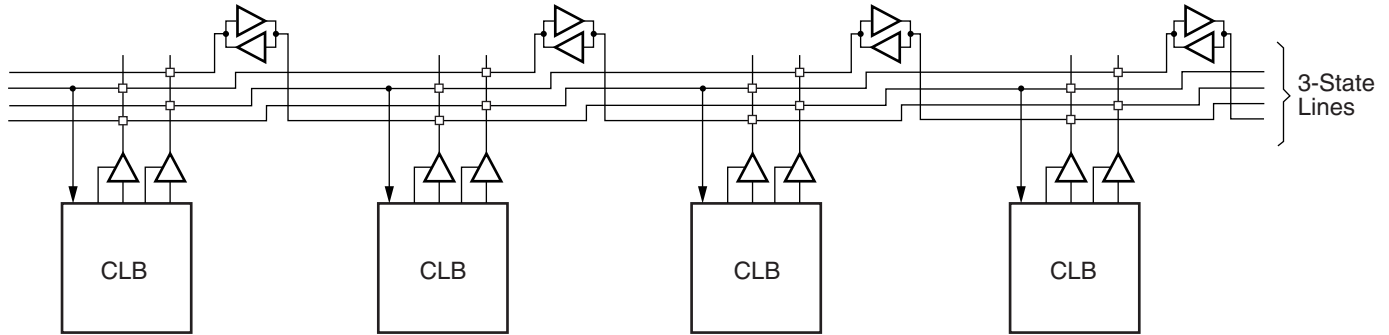

**Figure 10: BUFT Connections to Dedicated Horizontal Bus Lines**
- Horizontal routing resources are provided for on-chip 3-state busses. Four partitionable bus lines are provided per CLB row, permitting multiple busses within a row, as shown in Figure 10.